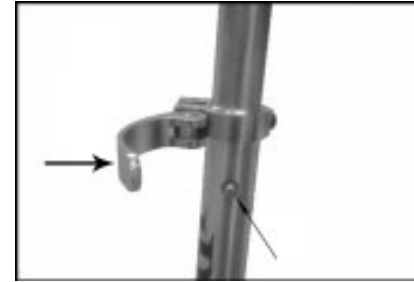

Figure 5
C. To extend the handlebars, unlock the steering tube by pulling outward on the quick release lever. Pull the T-tube to the position where the spring loaded button inserts into the tube and secure by pushing inward on the quick release clamp (Figure 5 and 5a). The tension of the quick release clamping mechanism can be adjusted by tightening or loosening the Allen bolt. Be careful not to over tighten.